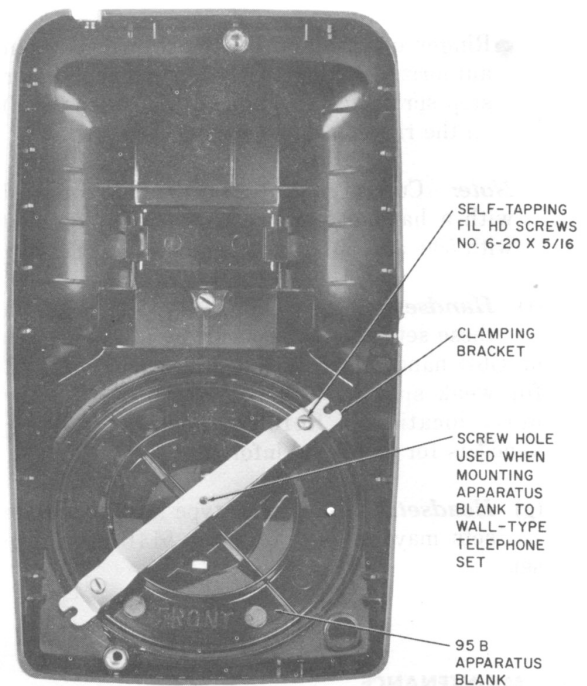

Fig. 9—500- and 501-Type Telephone Set With 95B Apparatus Blank, Interior
(2) 95B—Can be used in all sets (Fig. 9).
(3) 95C